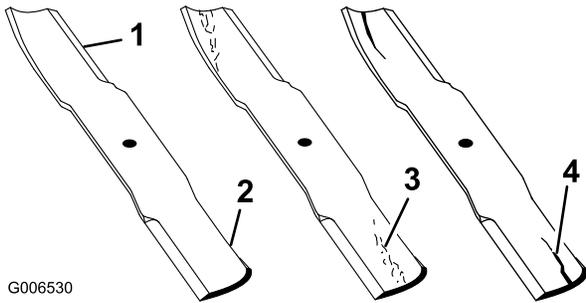

Figure 52
1. Inspect the cutting edges (Figure 52). If the edges are not sharp or have nicks, remove and sharpen the blades. Refer to Sharpening the Blades.
2. Inspect the blades, especially the curved area (Figure 52). If you notice any damage, wear, or a slot forming in this area (item 3. in Figure 52), immediately install a new blade.